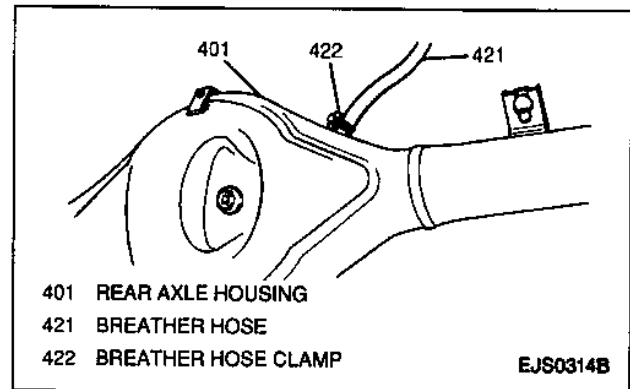

Figure 31—Rear Axle Housing Breather Hose and Clamp
23. One clamp and rear axle housing breather hose from rear axle housing (Figure 31).
8. Rear axle breather hose to rear axle housing; secure with one clamp (Figure 31).